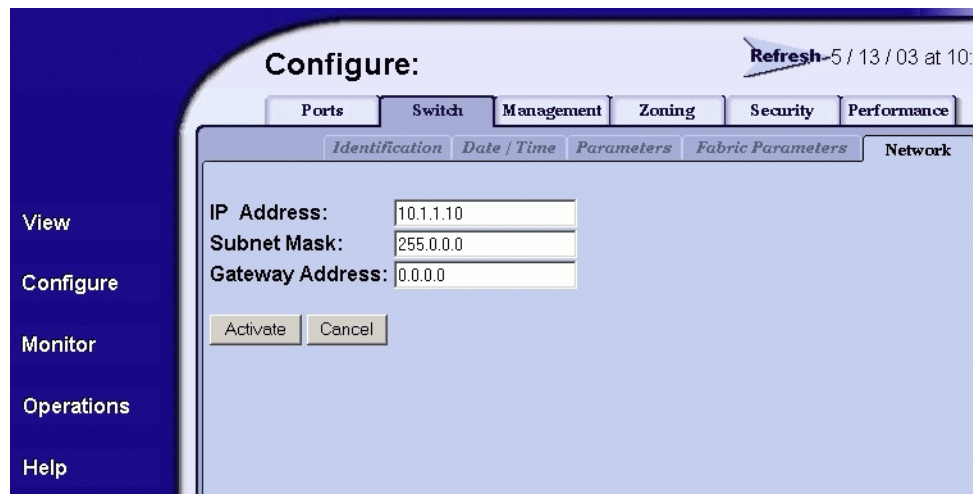

Figure 19: Switch page—Network tab
1. Choose **Configure > Switch > Network** to display the **Network** tab (Figure 19).